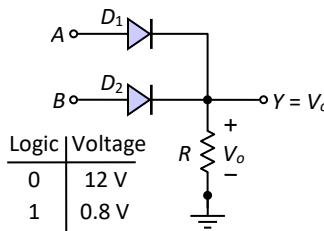

Fig.3-101: Circuit diagram for Exercise 9
9. For the logic gate implemented by diodes in Fig.3-101, determine the value of output voltage for the input logic combinations $A = 0, B = 1$ and $A = 0, B = 0$. Assume $V_D = 0.7$ V for each forward biased diode. What type of logic gate is it?